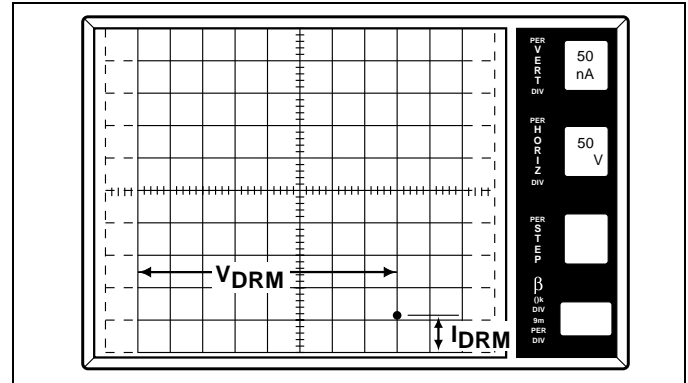

Figure 19.16 (+) $I_{DRM}$  is equal to 51nA at (+) $V_{DRM}$  equal to 400 volts
2. Increase *Variable Collector Supply Voltage* to the rated  $V_{DRM}$  of the device and observe the dot on the CRT. (Read across horizontally from the dot to the vertical current scale.) This measured value will be the leakage current. (See Figure 19.16.)